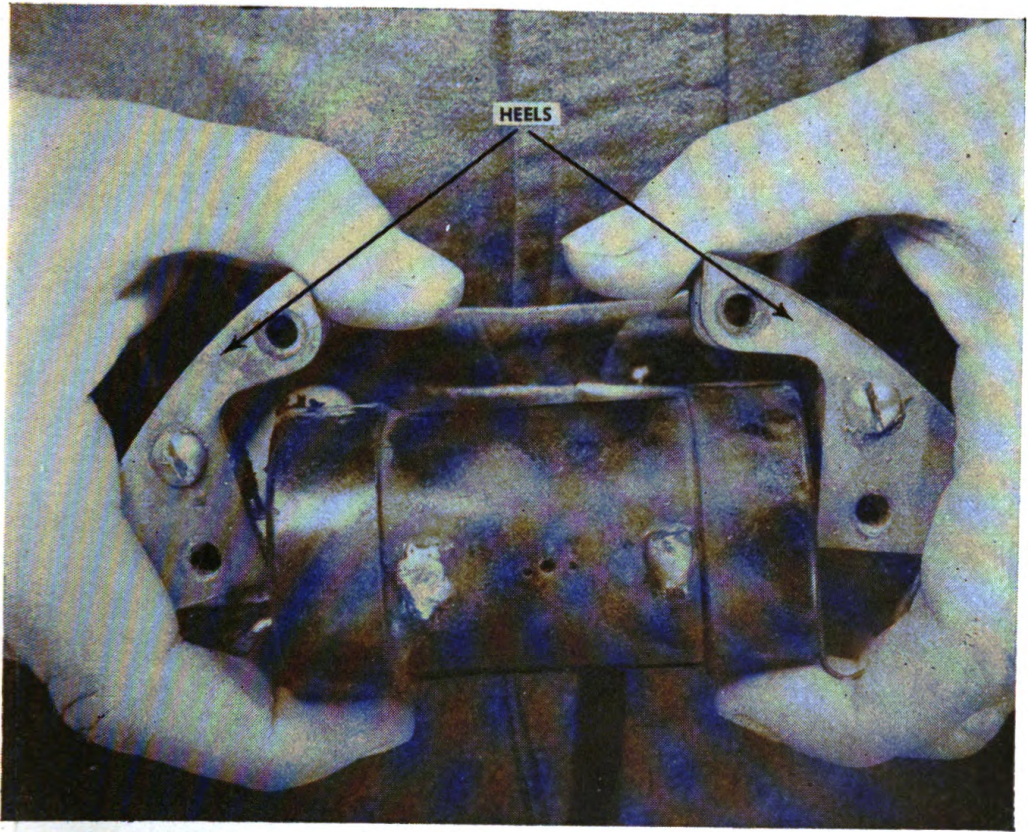

Figure 98. Detaching heels from coil.
e. To INSTALL IGNITION COIL. (1) Detach ground wire from armature plate. Detach primary lead soldered to bracket on breaker plate. Detach high-tension leads and spark-plug wires soldered to coil. Use small soldering iron and just enough heat to loosen soldered joint to permit pulling wires away. Remove screws, holding coil heels and coil to plate. Lift coil and heel assembly from armature plate. Middle screw *A*, figure 65, on each heel holds plates of heel assembly together. Do not remove this screw, merely loosen. Pry heels gently from coil. Simply pull off by hand. (See fig. 98.)
(2) To attach coil heels to new coil, place coil and heel assembly in position on armature plate. Insert and tighten screws holding assem-